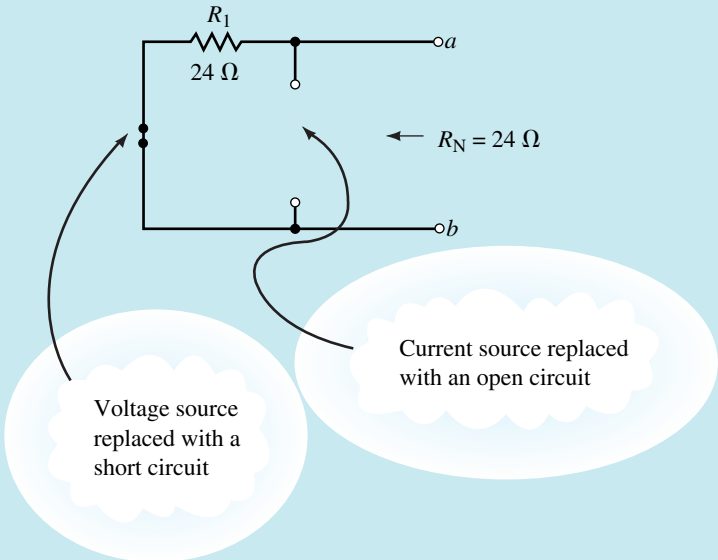

FIGURE 9-30
Step 3: Zero the voltage and current sources as shown in the circuit of Figure 9-30.